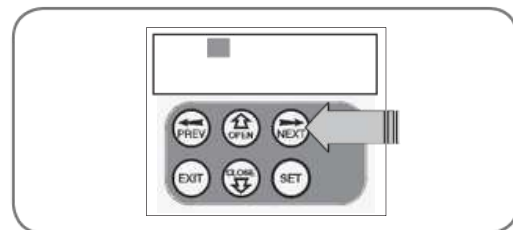

fig 29
2. Press SET to reveal Serial Number (**Fig. 29**).